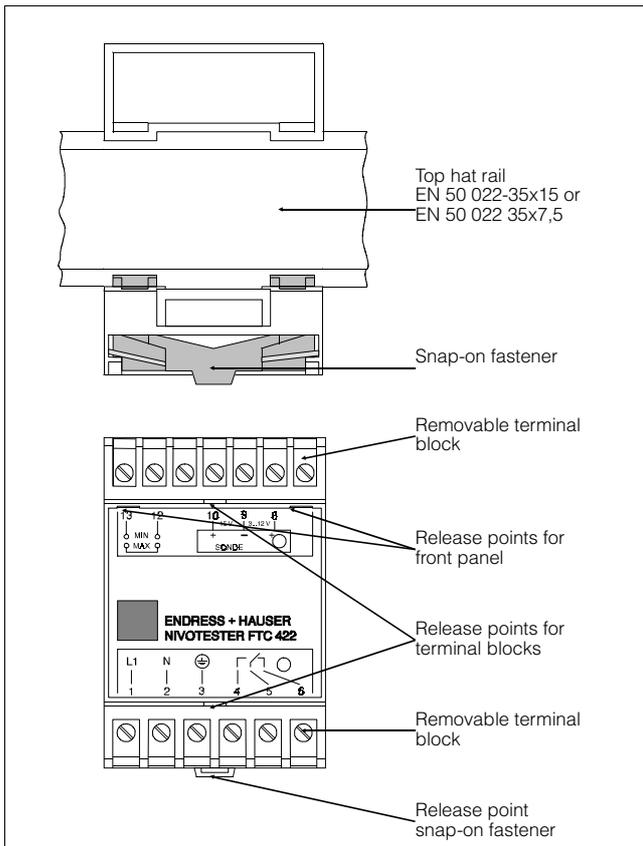

Fig. 3
This Chapter is concerned with the mechanical installation and electrical connection of the Nivotester FTC units. Fig. 3 gives a view of the principle connecting elements. For information on:
- 1 Release the terminal blocks by inserting a screwdriver blade into the release point, see Fig.3, and prising them apart.
- Insert a screwdriver blade into the front panel release points, see Fig. 3, and prise forward.